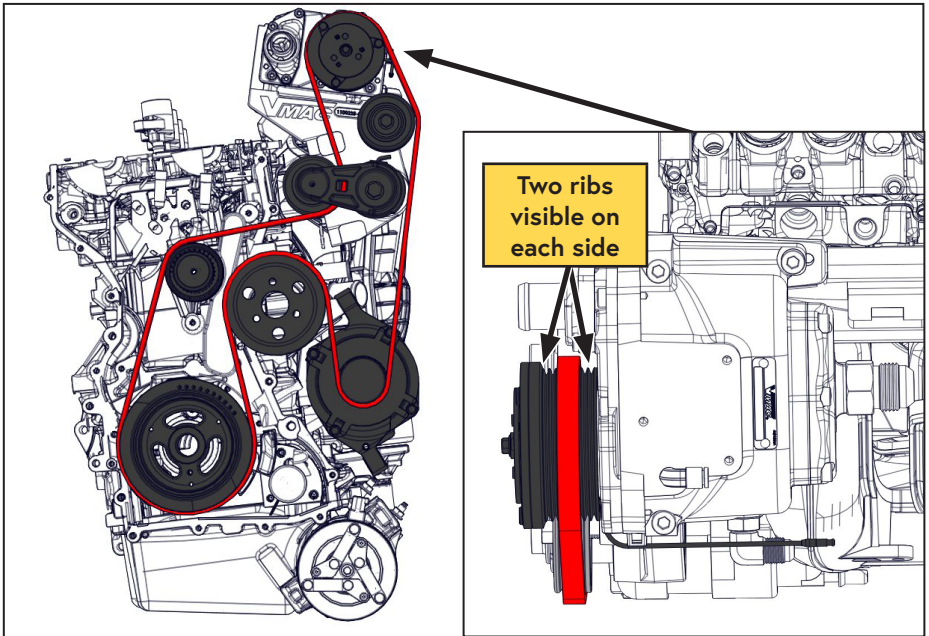

Figure 26 — VMAC belt routing
- Install the VMAC belt on the inside track of the crank pulley. Two clutch ribs should be visible on each side of the belt (Figure 26).